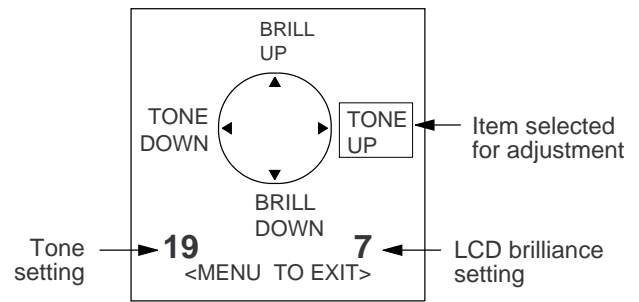

Figure 1-3 Display for adjustment of brilliance and tone
- 1) Press the [BRILL] key (or [TONE] key). The display shown in Figure 1-3 appears.